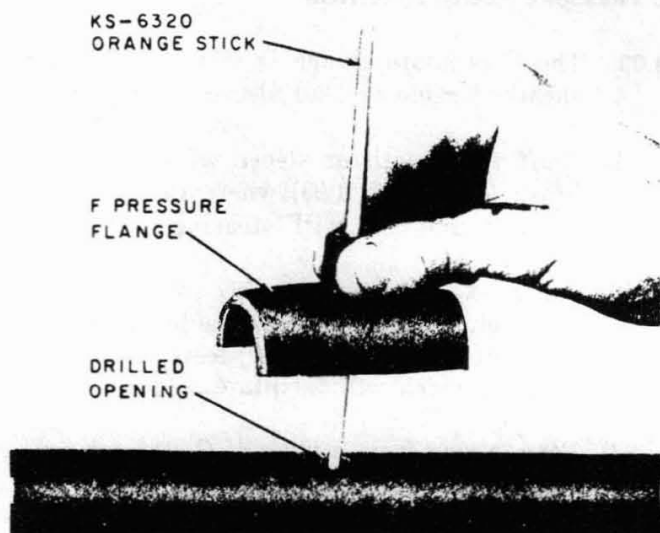

Fig. 8—Placing Flange
- (1) Scuff the surface area of the sheath to be covered by the saddle with a B carding bursh (paragraph 1.03).
- (2) Using a cable drill, drill a hole through the sheath at the pressure fitting location. **Exert light pressure on the drill to avoid pressing the cut metal edges into the core. Remove jagged metal edges with tweezers.**
- (3) Prepare the sheath by the muslin spacing method (for pulp cable only) to preserve the dielectric strength between core and sheath ♦(Section 637-235-100).♦ **Do not press the cut metal edges into the core.**
- (4) Apply a thin coat of C cement to the entire scuffed area around the drilled hole.
- (5) Carefully place a KS-6320 orange stick between the conductors in the center of the drilled hole and leave the stick in place.
- (6) Remove the release paper from the flange saddle. Place the orange stick through the insert opening in the flange, as shown in Fig. 8. Then press down on the saddle to seat the flange against the cable sheath.